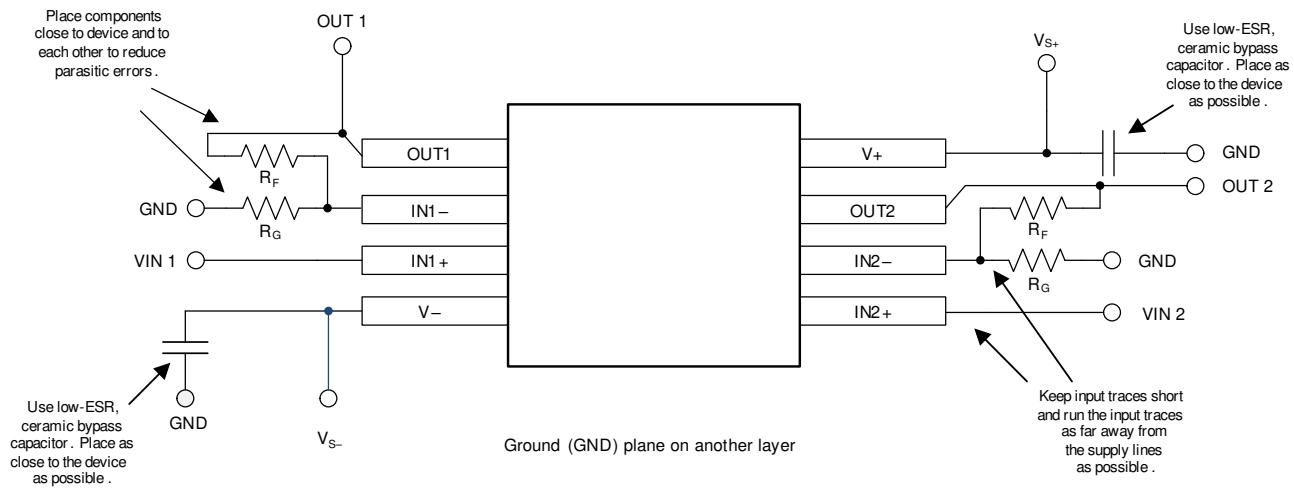

图 68. PCB Layout Example
- Use bypass capacitors to reduce the noise coupled from the power supply. Connect low ESR, ceramic, bypass capacitors between the power-supply pins (V₊ and V₋) and the ground plane. Place the bypass capacitors as close to the device as possible with the 100-nF capacitor closest to the device, as indicated in 图 68. For single-supply applications, bypass capacitors on the V₋ pin are not required.
- Place the external components as close to the device as possible. As illustrated in 图 68, keeping RF, CF, and RG close to the inverting input minimizes parasitic capacitance.